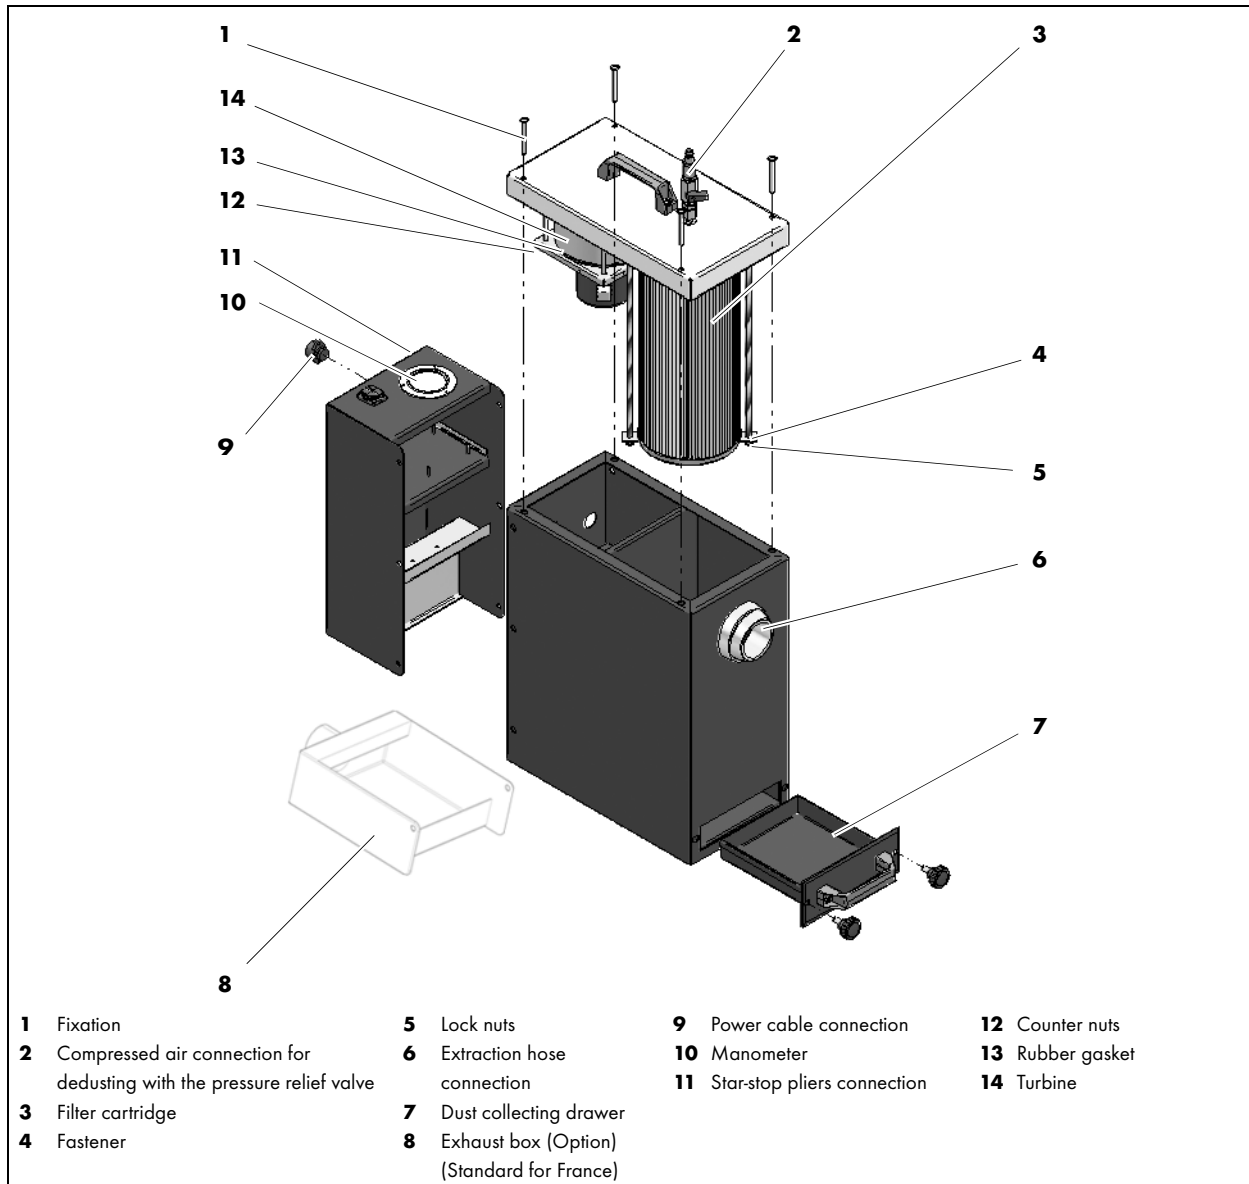

Fig. 2 Functional Description
- If the input pressure is > 5 bar, the excess pressure escapes sidewise through the pressure relief valve (1).
Connect the compressed air (1). Set the pressure relief valve to 5 bar and open the valve lever (2) on the compressed air connection. Depending on the pressure, the compressed air produces a dedusting jet and causes the dedusting nozzle to rotate inside the fine filter cartridge. The filter is cleaned by manually moving the dedusting system up and down. Empty the separated dust from the dust collecting drawer (7) (see Fig. 2 Functional Description on page EN-10) into the dust collecting bag supplied.
- The dust collecting drawer (7) must be emptied after every third cleaning of the filter.
Reinstall the dust collecting drawer (7) (see Fig. 2 Functional Description on page EN-12) and close it.
⇒ Fig. 2 Functional Description on page EN-12
- Type France: connect the additional exhaust air hose to the exhaust box. (Fig. 2 Functional Description on page EN-12)
- 4 Switch on the device at the rocker switch (2)